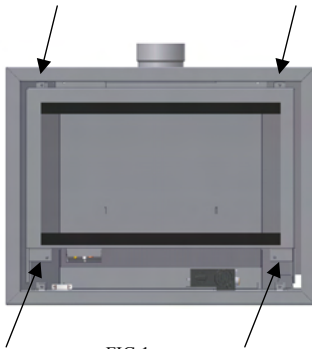

FIG.1
1. To remove the front panel that holds the glass: Remove the two screws behind the fold down door, below the front glass panel (FIG. 1) and lift off the frame and glass window.